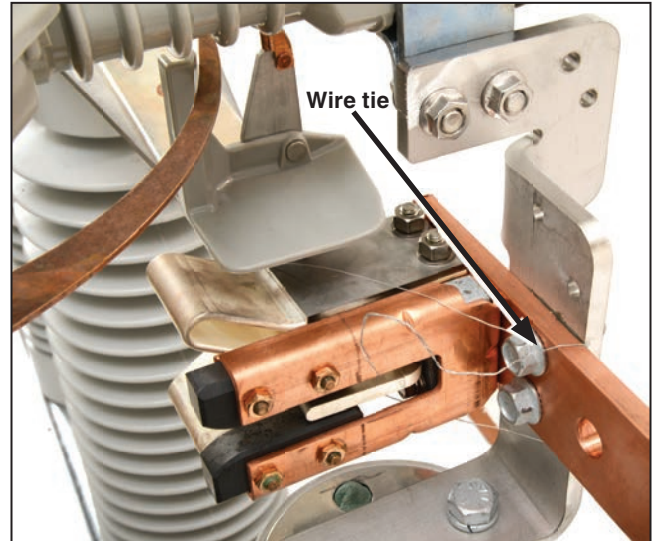

Figure 15. Tie the switch blade to the main contacts.
**STEP 12.** To minimize time-consuming final adjustments, make sure the switch is fully closed. Tie the switch blades to their stationary main contact assemblies using a wire tie. See Figure 15.